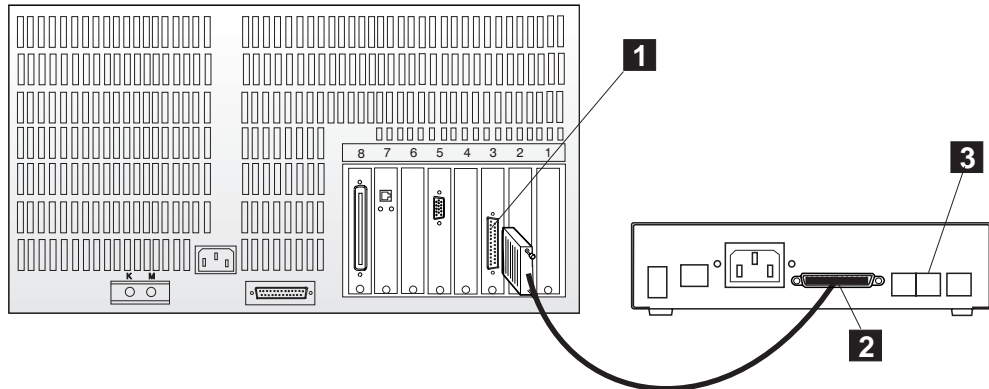

Figure 1-72. Connecting the Service Processor (3172) from the MPA Card to the 7858
- **3172**, refer to Figure 1-72